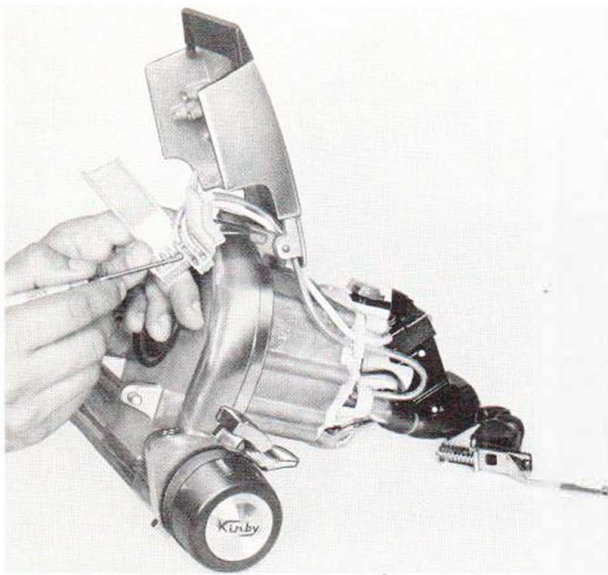

Figure 1-18. Headlight wire terminal clips in terminal block
b. Remove the headlight cap by removing hinge pin (42) with a drift punch from left to right when the unit is facing you.
c. Attach terminal block (46), hold down (53), and mounting screws (36) to the new cap.
e. Be sure the headlight wires are over the hinge pin as shown in figure 1-18.
(4) Disconnect the headlight wires from the terminal block by squeezing the clip prongs together with a tweezer or small screwdriver, as shown in figure 1-18. Pull the wires back through the slot above the hinge pin.